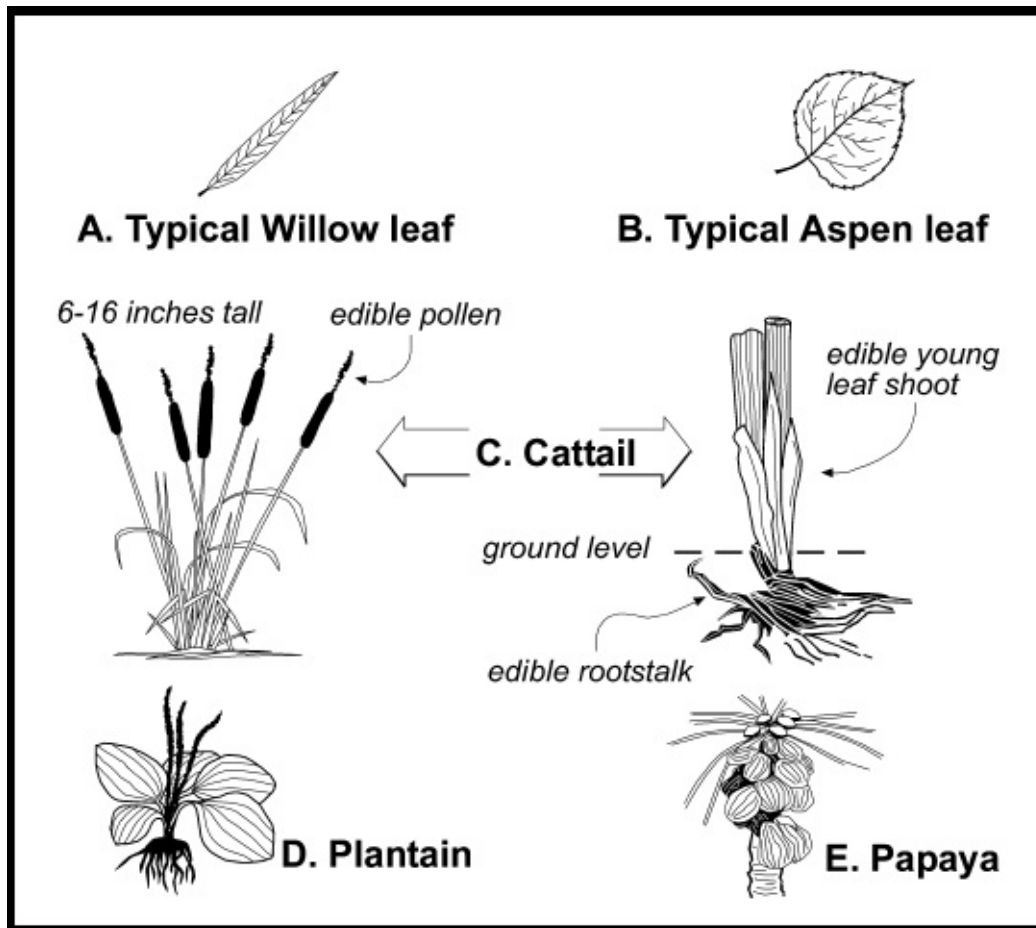

Figure 5-7. Useful plants
(1) Medical uses. Aches, colds, fever, inflammation, pain, sprains, and sore throat (aspirin-like qualities).
(2) Sources. Willow and aspen trees (**Figure 5-7**).
(3) Preparation.
- (1) Medical uses. Itching, wounds, abrasions, stings, diarrhea, and dysentery.
- (2) Source. There are over 200 plantain species with similar medicinal properties. The common plantain is shown in **Figure 5-7**.
- (3) Preparation.
(4) Treatments.
- (1) Medical uses. Digestive aid, meat tenderizer, and a food source.
- (2) Source. Fruit of the papaya tree (**Figure 5-7**).
(1) Medical uses. Wounds, sores, boils, inflammations, burns, and an excellent food source.
(2) Source. Cattail plant found in marshes (**Figure 5-7**).